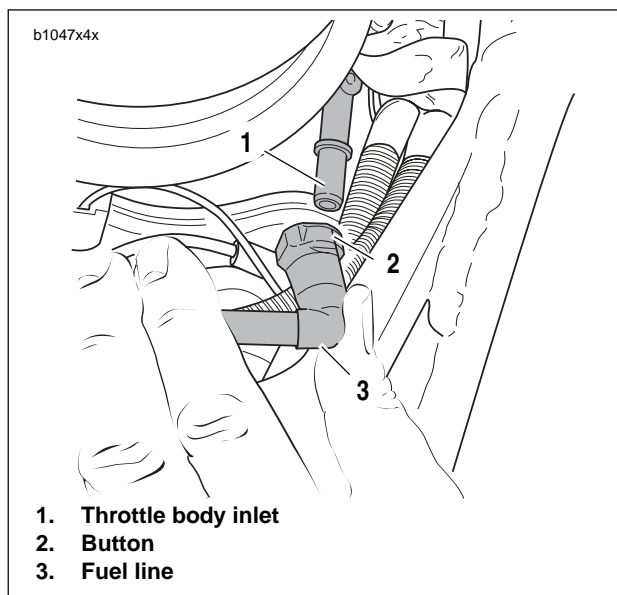

Figure 4-138. Fuel Line
3. See Figure 4-138. Depress button (2) of fuel line connector and disconnect the fuel line (3) from throttle body inlet (1).